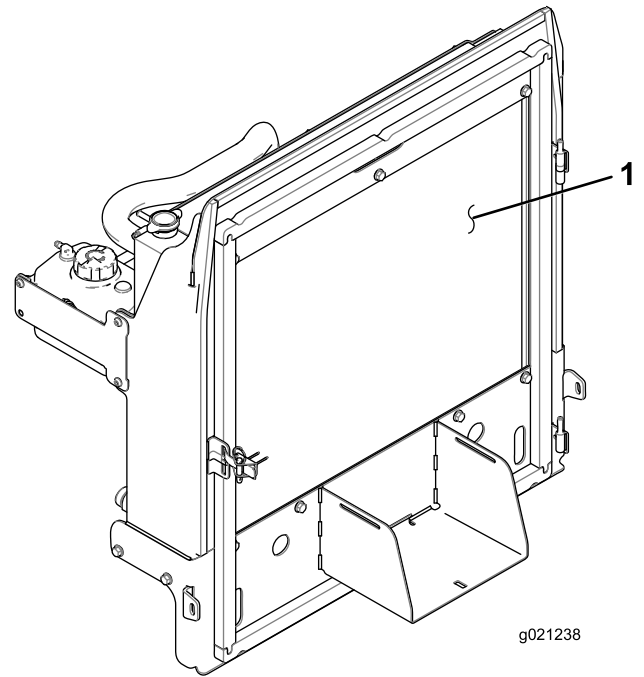

Figure 58
4. Thoroughly clean both sides of the and the radiator/oil cooler (Figure 58) with compressed air.